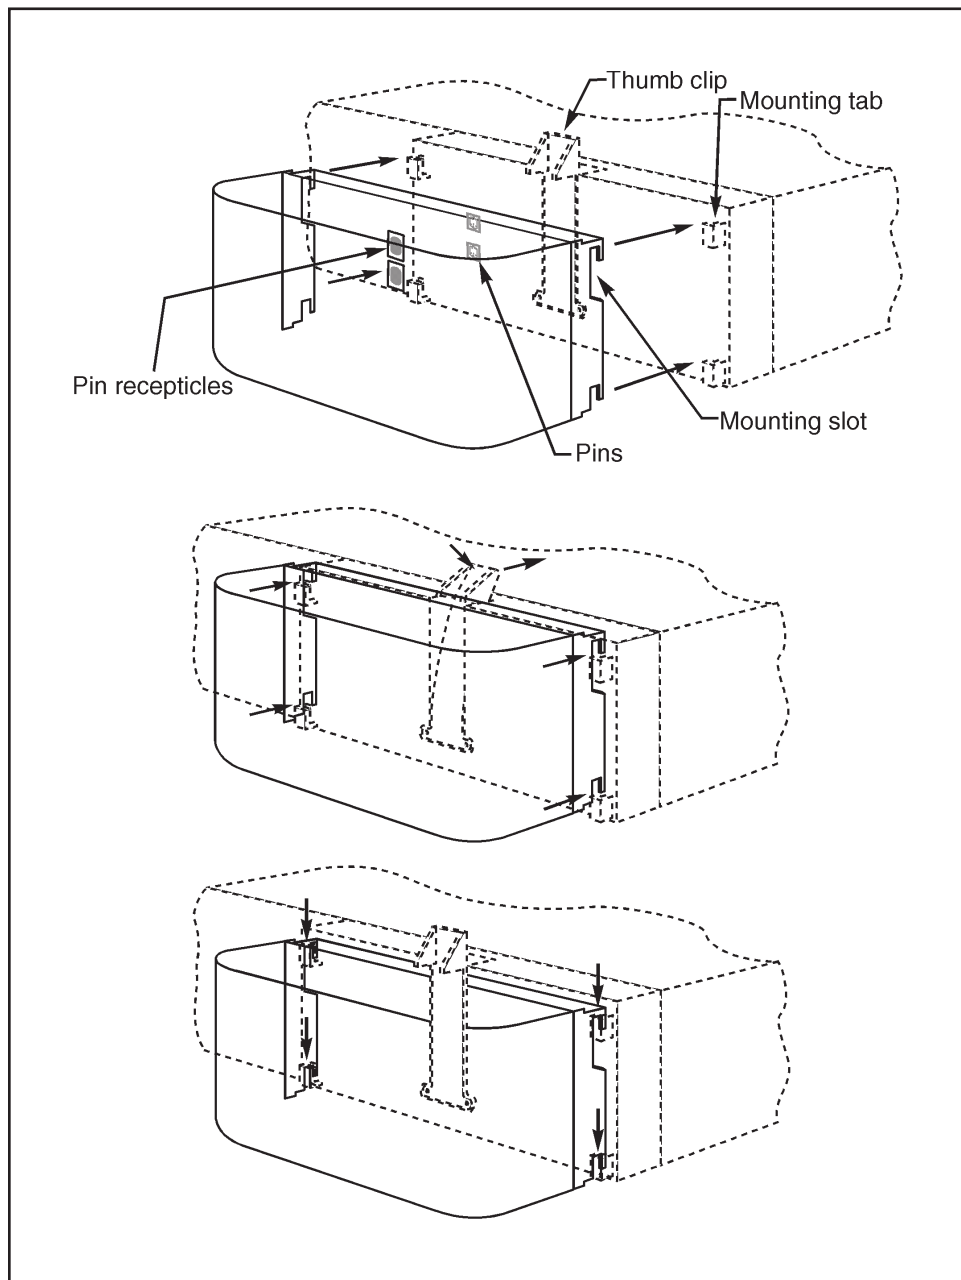

Figure 1 Attaching the Batteries
Referring to Figure 1, attach the fully charged batteries to the InSpector's battery ports.
2. As shown in Figure 1, place the battery on the battery port so that its mounting slots are slightly above the port's mounting tabs, then press in and down to engage the battery.